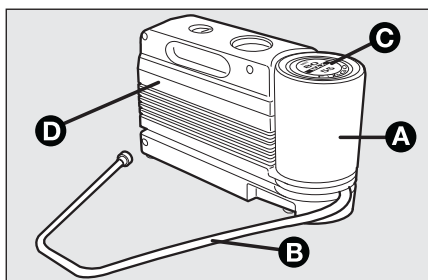

fig. 11
The kit **fig. 11** includes:
- a compressor **D-fig. 11** complete with pressure gauge and fittings, in the boot;